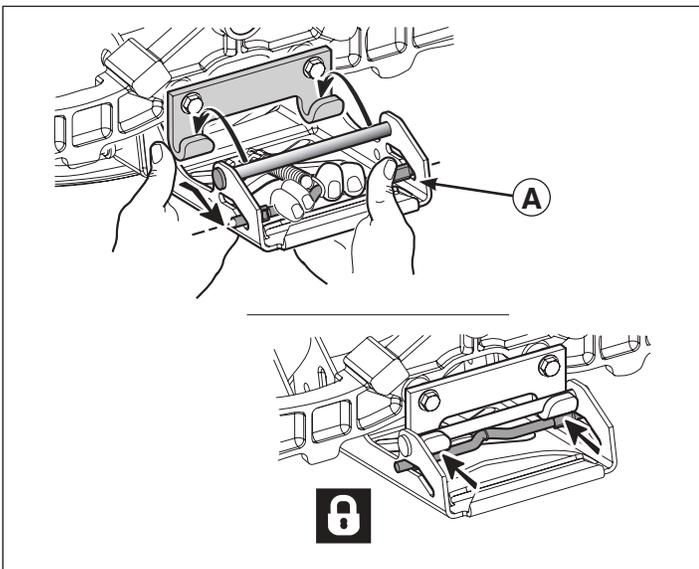

Figure 17
11. Pull back on spring-loaded lever (**A**, Figure 17) and lift mower hitch off of the tractor hitch brackets.
7. Pull back on the spring-loaded lever (**A**, Figure 17) while lifting up on the mower hitch. Install mower hitch onto tractor hitch brackets.